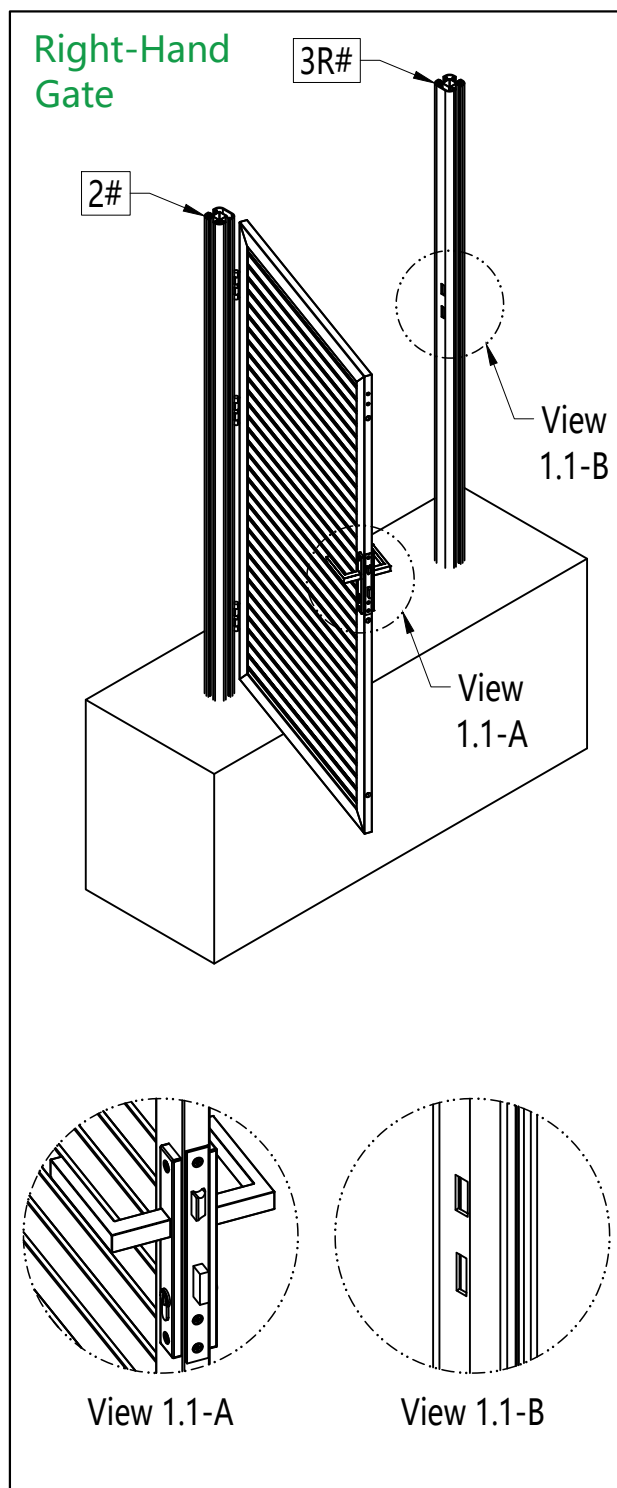
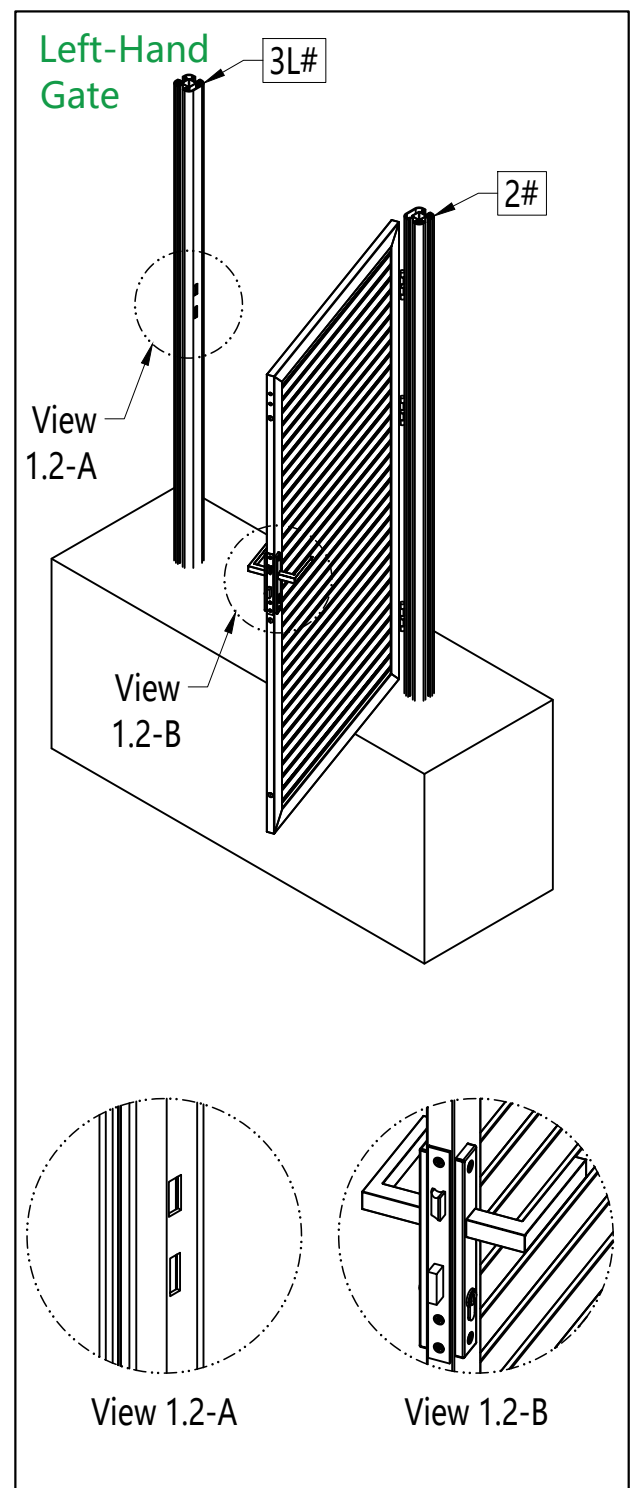

Figure 1.1
Figure 1.2
- 1 Determine the opening direction of the Fence Gate (1#), then select the corresponding Gate Post (3R#/3L#), as shown in Figure 1.1 and Figure 1.2.